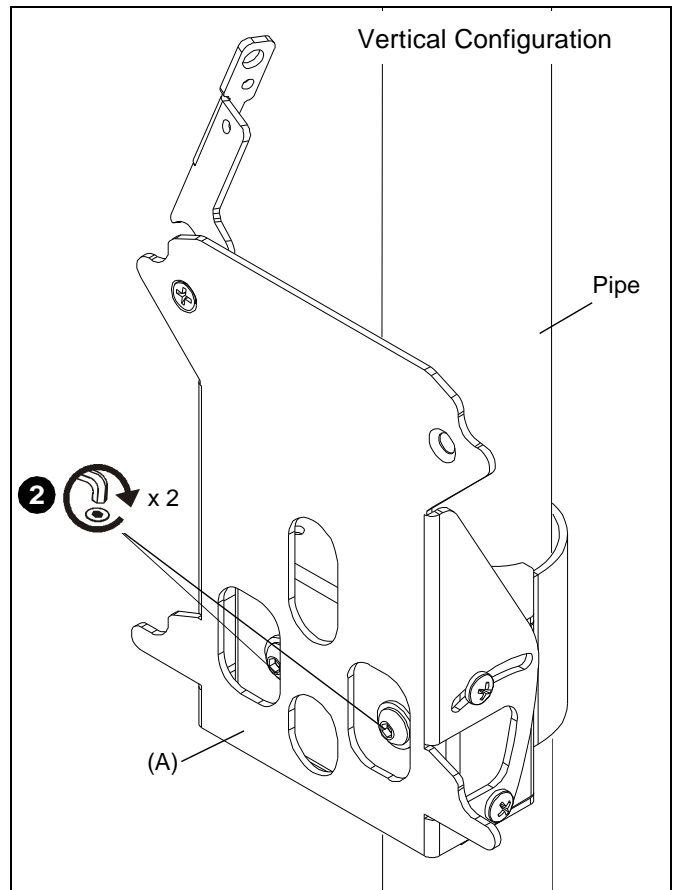

Figure 6
2. Secure FSP (A) to pipe by tightening two button head cap screws already in place in FSP (See Figure 6)